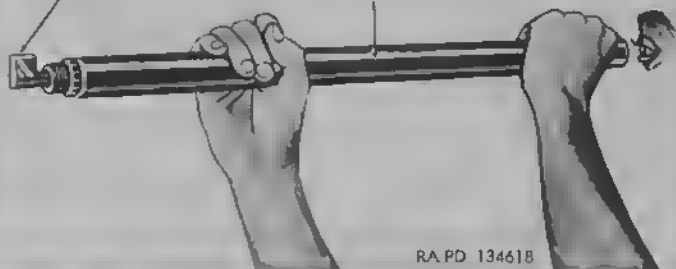

Figure 49. Inspecting barrel, using barrel reflector—7265788.
a. *Barrel.* Keep front and rear bearing surfaces smooth and working freely in their bearings in the front barrel bearing and trunnion block. If fouling (carbon deposit) forms on the barrel, remove it with emery cloth. Remove any burs set up at the edge of the chamber. Examine barrel visually, using cal. .30 barrel reflector—7265788 (fig. 49) holding barrel so that its interior is illuminated and examine the bore. If the bore appears free from bulges and large pits and if the lands are sharp and uniformly distinct, it is serviceable. Examine the breech end of bore to see if lands are worn smooth for the first 6 to 8 inches, making it unserviceable. A bulge is indicated by a shadowy depression or ring in the bore and also by a bulge or raised ring on the exterior surface. If a barrel is pitted so that the pitting is the width of a land or groove and three-eighths of an inch long or longer, it is unserviceable. Replace unserviceable barrels.